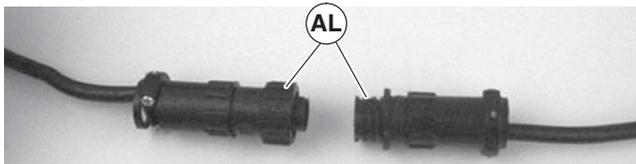

Figure 20
3. For DC variable speed motor, unplug motor cord at disconnect (Figure 20, item AL).